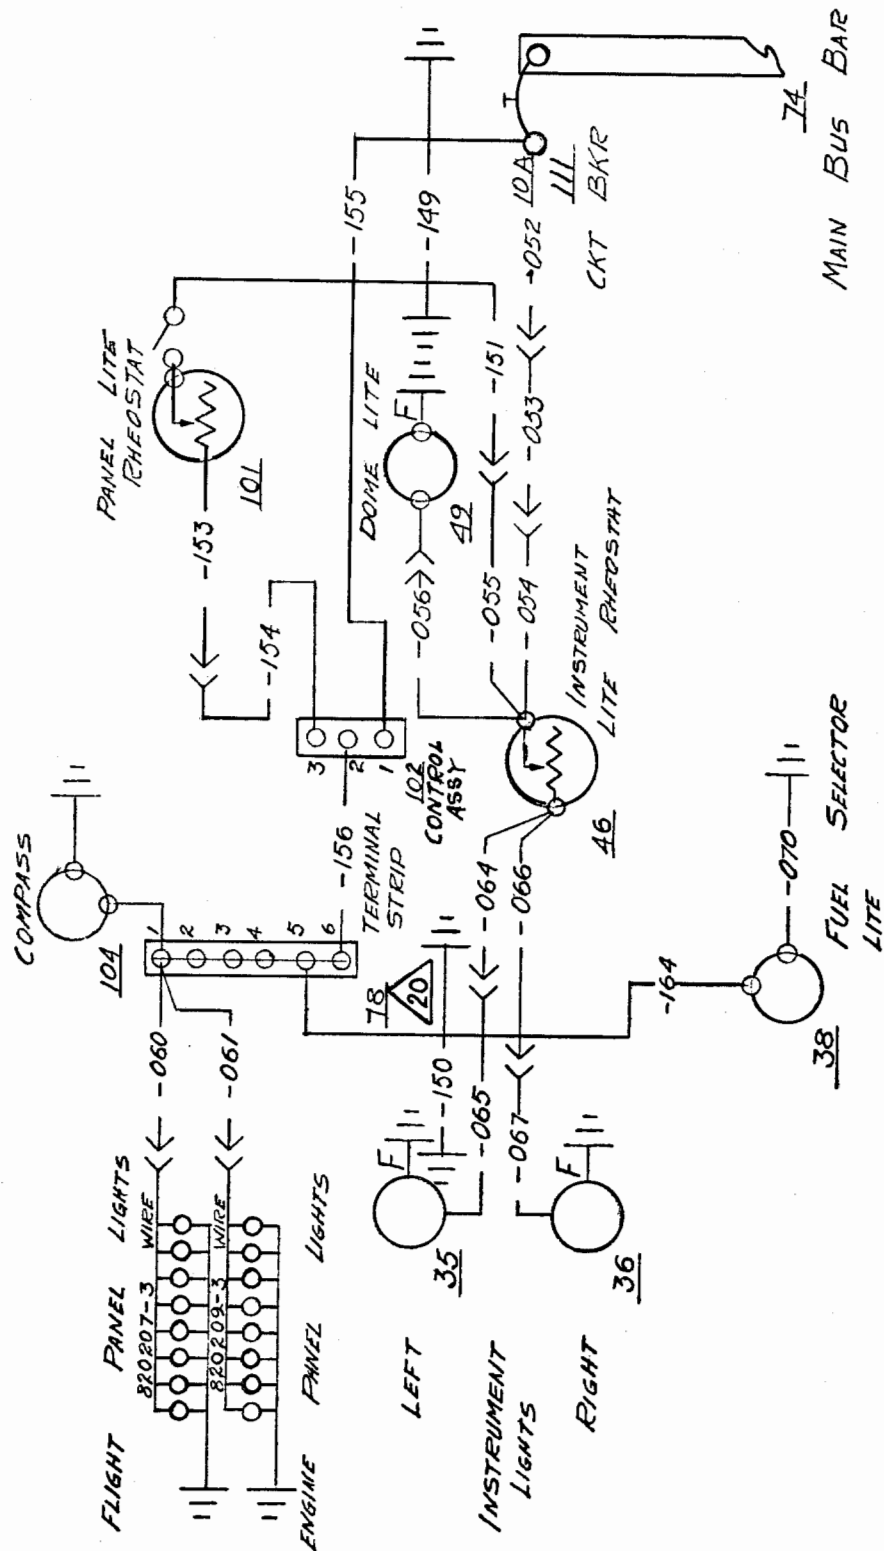

Figure 9-8. Instrument Lights (M20F, 1968)
20. When rheostat 101 (Figure 9-27) and control assembly 102 are not installed, wire -154 connects to wire -068 instead of wire -153 (as shown in Figure 9-8), and the other end of wire -154 connects to terminal #3 of terminal strip 78.